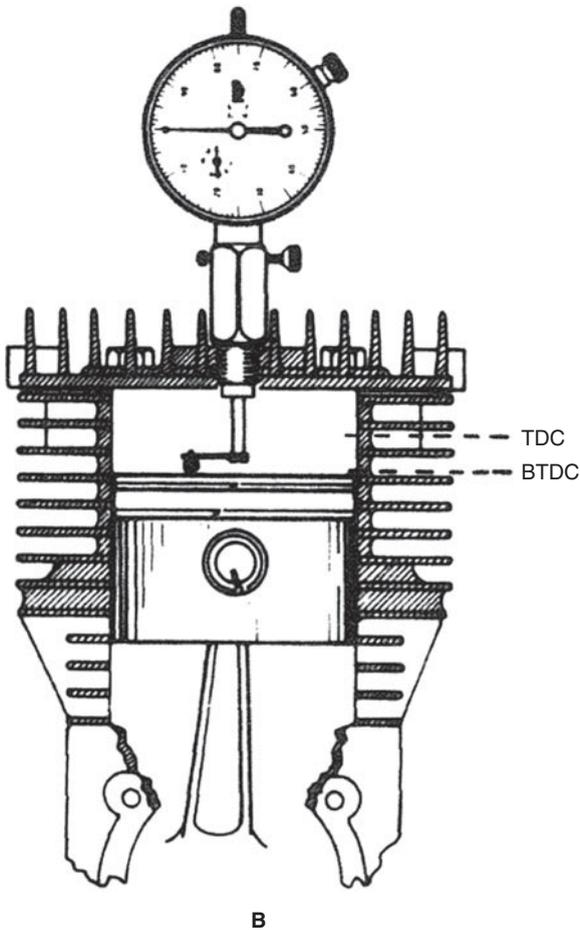

FIG. 3-11. (Continued)
Timing Magnetos for light motorcycles, outboard motors, and some utility engines have provision for timing adjustment (Fig. 3-11).
FIG. 3-11. Phelton magnetos of the type found on American utility engines have timing marks as an assembly convenience (A). High-performance engines should be timed with a dial indicator, such as the Tecumseh PN 670241 (B). The piston is brought up to top dead center, the indicator zeroed, and the flywheel turned until the piston (which should be free of carbon deposits) is at the specified distance before TDC. Timing is correct when turning the magneto stator against the direction of engine rotation just cracks the points open. An ohmmeter with one test lead clamped to the moveable contact arm and the other grounded gives an accurate indication of point break. A piece of cigarette paper inserted between the closed contacts can also be used to detect point separation.